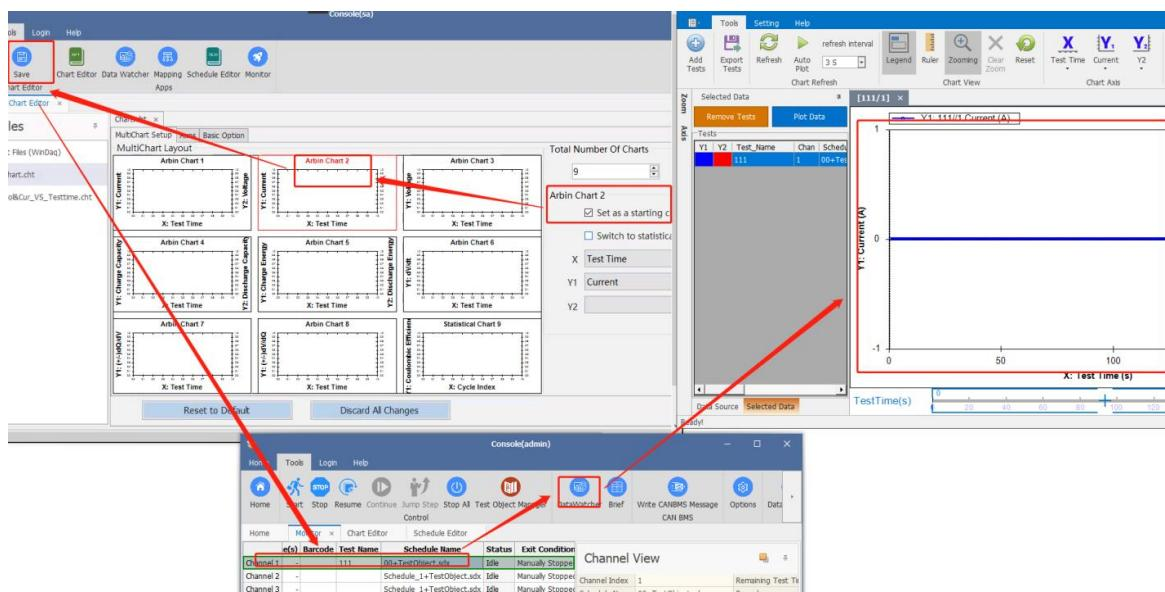

Figure 9-12 Set as a Starting Chart
- a) For example, the selected chart in Figure 9-12 is Arbin Chart 2.